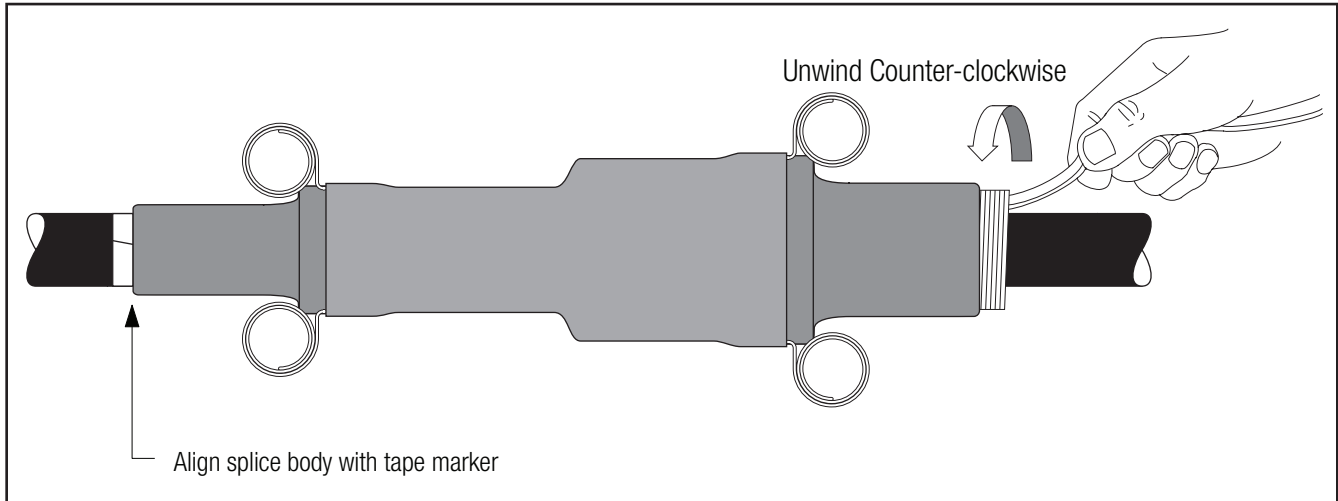

Figure 12
- 4.5 Position the splice body over connector area, aligning end of the splice body (not the core) at the center of the tape marker. Slowly start to remove the splice core by pulling and unwinding the loose core end counterclockwise, allowing only ¼" (6 mm) of the splice to shrink onto the tape marker. Carefully slide the splice body off the tape marker by pulling and twisting until the entire tape marker is exposed. Continue removing the core to complete the splice body installation (*Figure 12*).